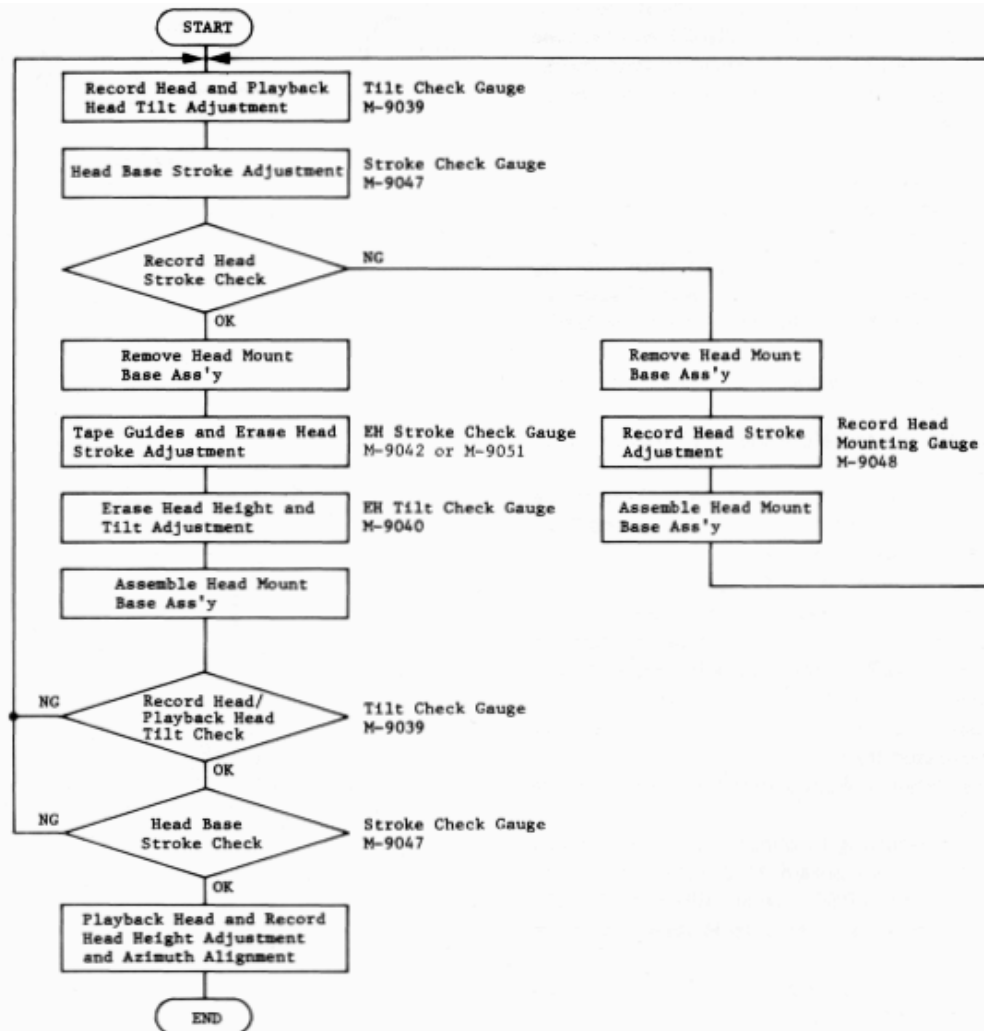

Fig. 5.4
Note: On items 5.3 — 5.8, please refer to Fig. 5.4 flow chart.